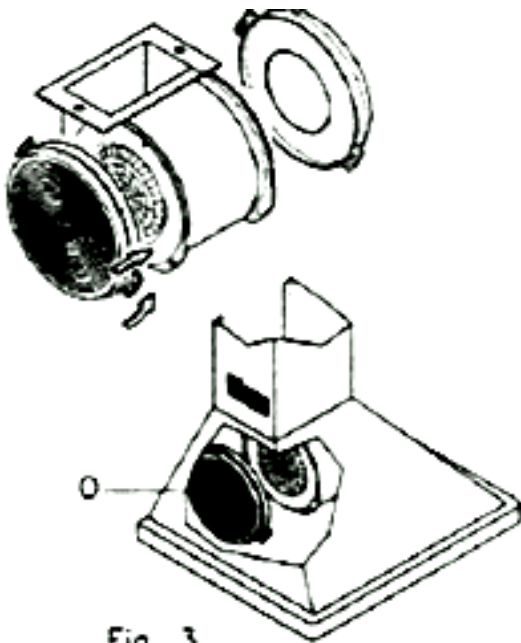

Fig. 3
- 3) Place the new carbon filters (which have two fixing tongues), turning clockwise so that the tongues latch onto the motor's sides. (Fig. 3 - left).**